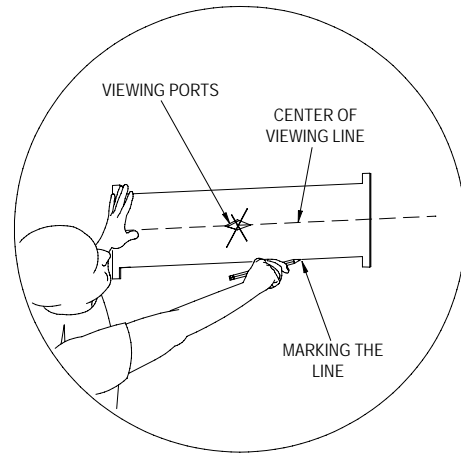

Figure 8
2. Mark a line on the bottom of the carton template (Figure 8).